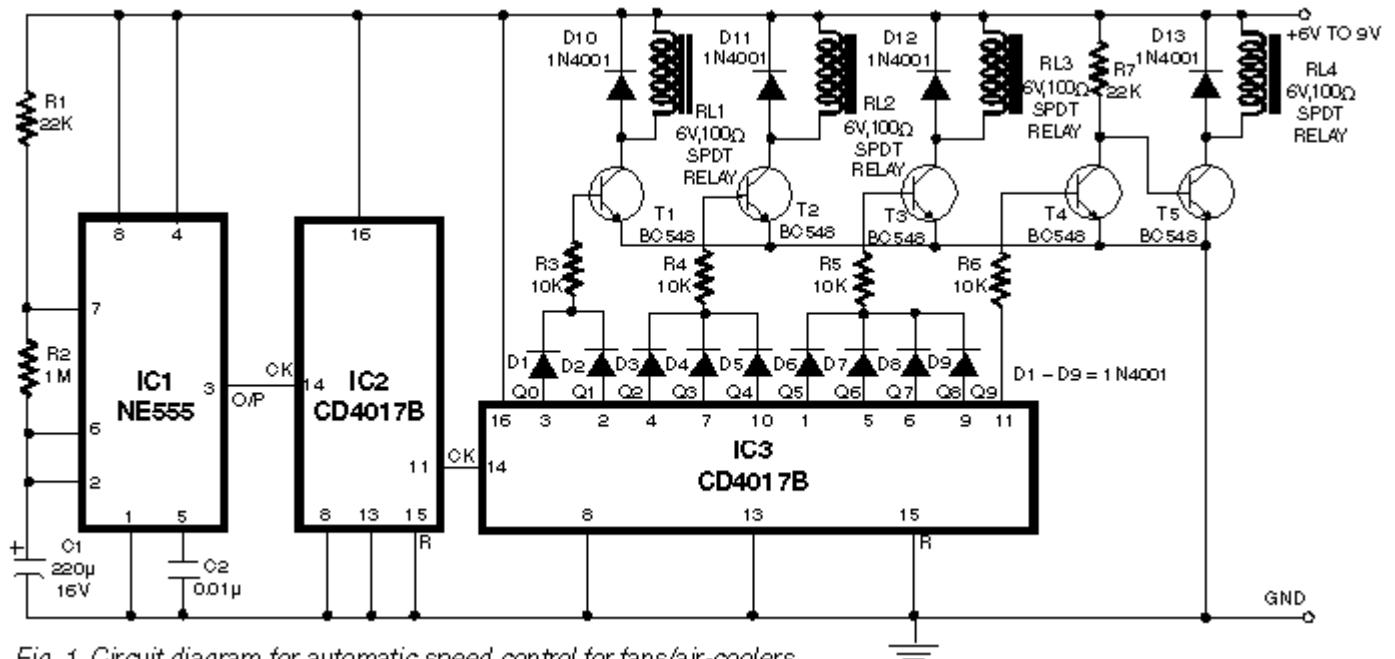

Fig. 1. Circuit diagram for automatic speed control for fans/air-coolers
During summer nights, the temperature is initially quite high. As time passes, the temperature starts dropping. Also, after a person falls asleep, the metabolic rate of one's body decreases. Thus, initially the fan/cooler needs to be run at full speed. As time passes, one has to get up again and again to adjust the speed of the fan or the cooler. The device presented here makes the fan run at full speed for a predetermined time. The speed is decreased to medium after some time, and to slow later on. After a period of about eight hours, the fan/cooler is switched off. Fig. 1 shows the circuit diagram of the system. IC1 (555) is used as an astable multivibrator to generate clock pulses. The pulses are fed to decade dividers/counters formed by IC2 and IC3. These ICs act as divide-by-10 and divide-by-9 counters, respectively. The values of capacitor C1 and resistors R1 and R2 are so adjusted that the final output of IC3 goes high after about eight hours. The first two outputs of IC3 (Q0 and Q1) are connected (ORed) via diodes D1 and D2 to the base of transistor T1. Initially output Q0 is high and therefore relay RL1 is